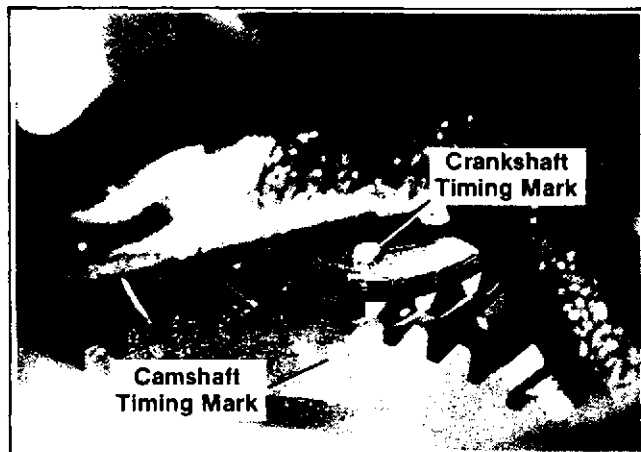

Figure 8-5. Aligning Crank Gear to Cam Gear
3. Remove tool, align crankshaft and camshaft timing marks then press crankshaft all the way into crankcase (see Figure 8-5).